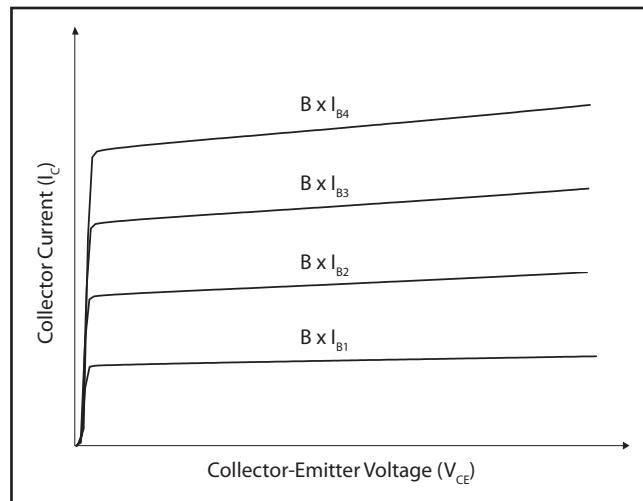

Figure E.20 NPN Transistor Characteristic Curve
4. The current flowing from collector to emitter (I_C) is roughly proportional to the current input to the base (I_B), shown in Figure E.20, and can be calculated with the following formula: